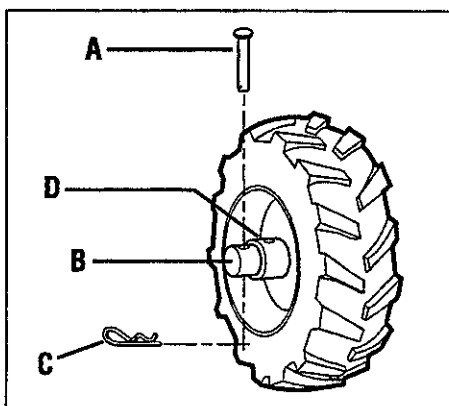

Figure 3-3: FREEWHEEL position.
## 5. FOR FREEWHEEL mode (Figure 3-3):
Slide the wheel inward and insert the wheel drive pin (A, Figure 3-3) only through the hole in the wheel shaft (B). Install the hairpin cotter (C) on the wheel drive pin, pushing the hairpin cotter in as far as it will go. Repeat for the other wheel and remove the support from the unit.